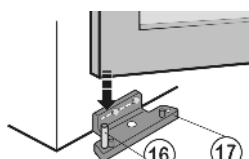

Fig. 17
- ▶ At the bottom, place the door on the bearing pin Fig. 17 (16).